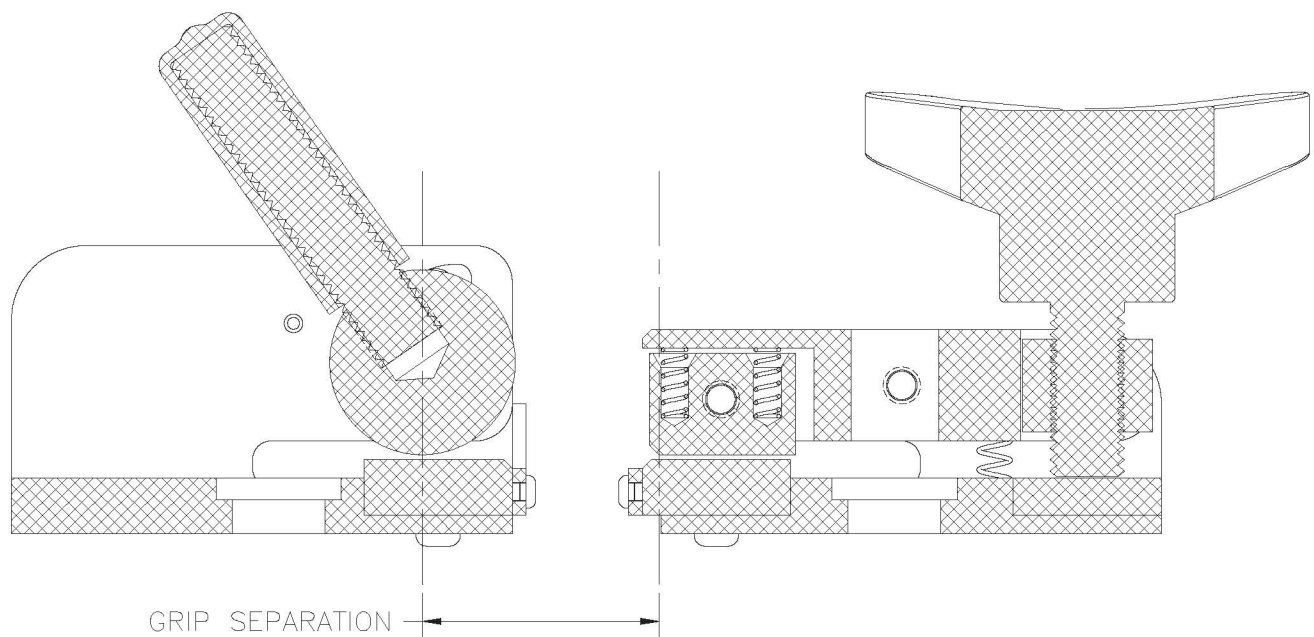

Figure 4
Grip Separation (GS): The distance between the grip point on each of the left and right sample grip assemblies (refer to Figure 4). There are two user settable distances, A or B, which have been factory set for 1.7 and 3.5 inches respectively. The operator must be aware of these values and change the settings if necessary (refer to Section 3.4) to accommodate the particular sample to be tested.